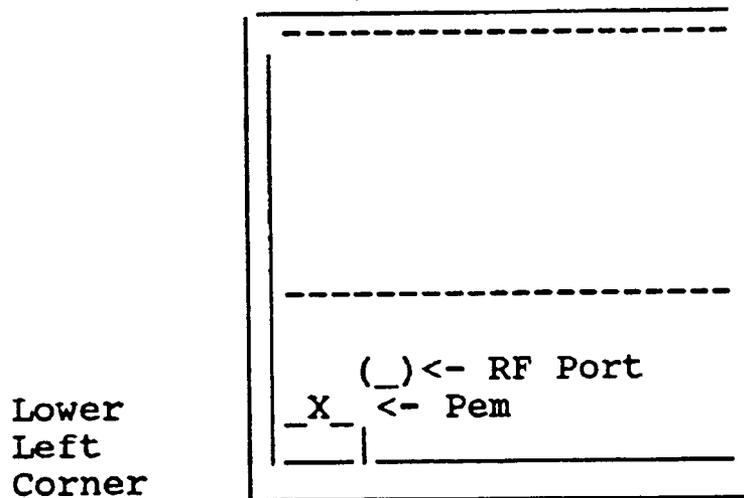

Figure 1
9. Remove the pem (pressed in nut) from front panel next to the RF connector (see figure 1). This nut is a pressed in part. To remove the pem drive it out by putting a screw into the pem from the bottom side and a socket on the other side for support while driving it out. Take care in removing the pem, if the frame is broken a new front frame will need to be installed.